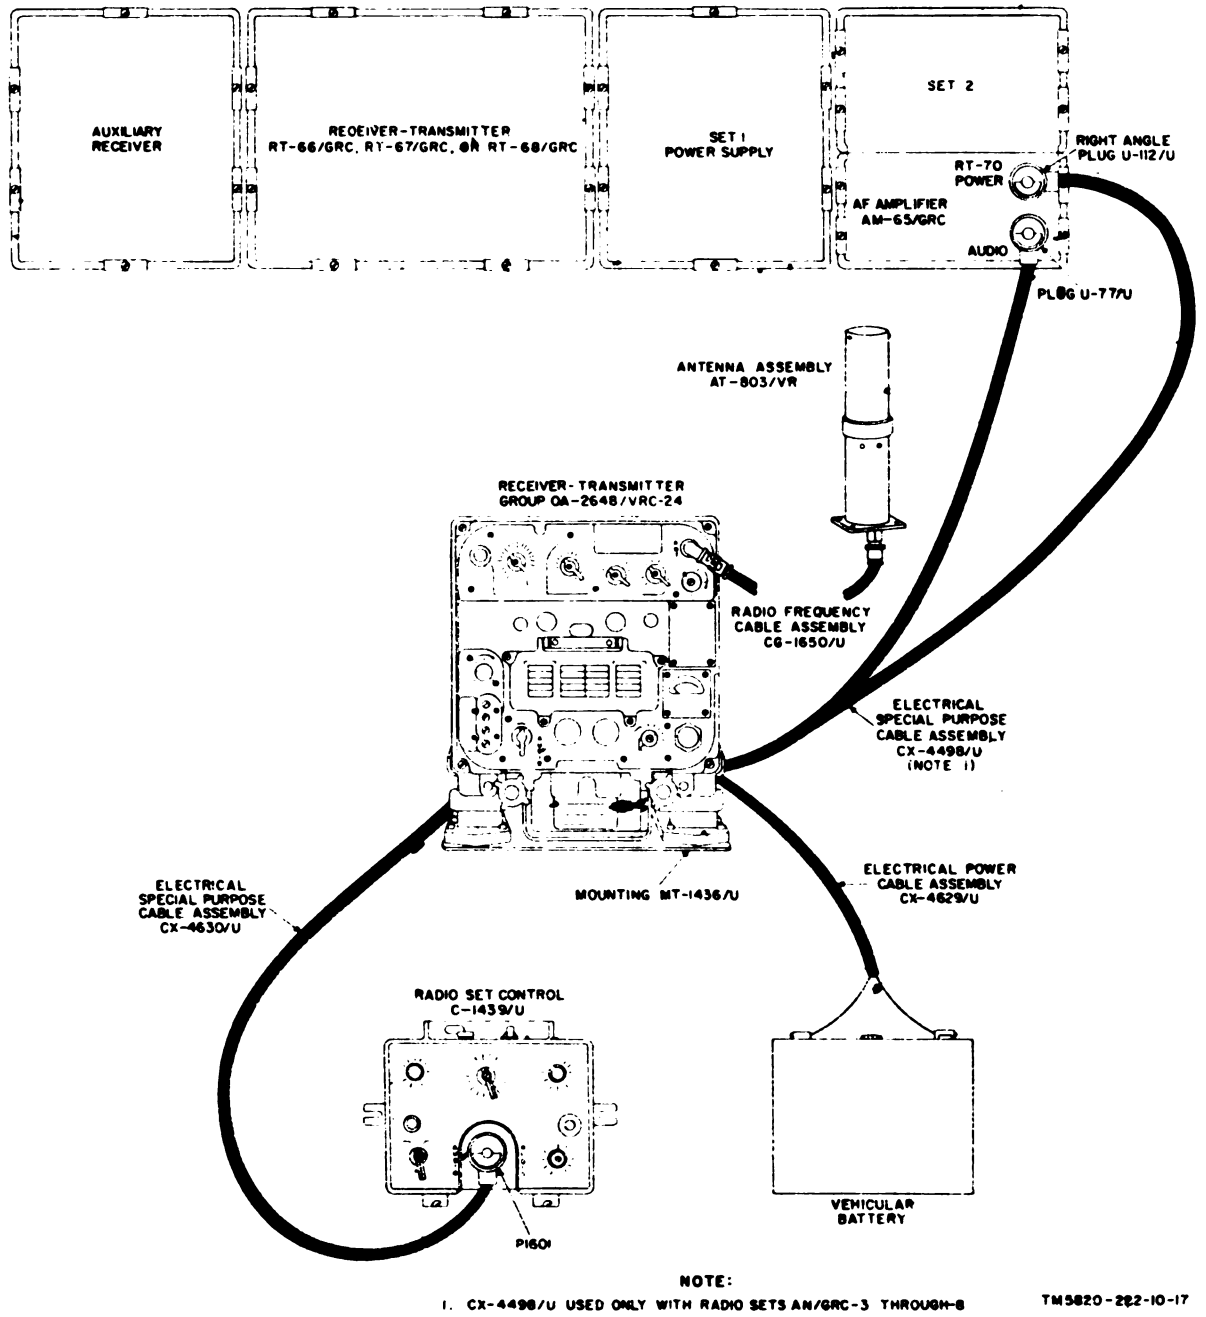

Figure 3. Radio Set AN/VRC-24 as used with Radio Sets AN/GRC-3 through -8, cording diagram.
b. The AN/VRC-24 is used for vehicular ground-to-air communications. It may also be used as a retransmission device for Radio Sets AN/GRC-3 through -8 (TM 11-284) when connected as shown in figure 3. Audio output from the AN/VRC-24 receiver frequency-modulates the transmitter of one of the AN/GRC-3 through -8 series for retransmis-
The AN/VRC-24 includes a receiver-transmitter group, a mounting, a radio set control, an antenna, a loudspeaker, a microphone, and interconnecting cable assemblies. The receiver-transmitter group (fig. 1) is secured to the mounting which is normally bolted to a vehicular mounting surface. The cable assemblies interconnect components of the radio set and connect the radio set to the vehicular battery (fig. 3). The actual location of the components in a vehicle depends upon the vehicle and is limited by the lengths of the cable assemblies.